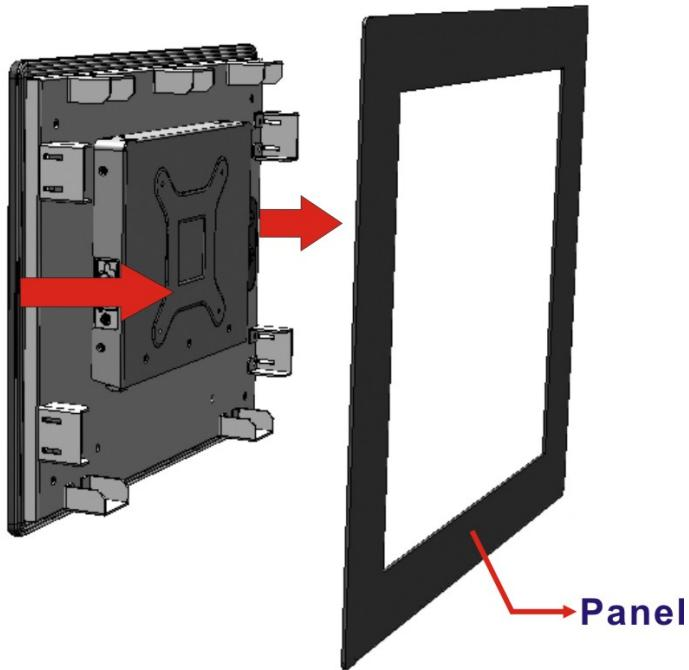

Figure 3-26: Slide into the Panel
Step 4: Slide the monitor through the hole until the aluminum frame is flush against the panel (**Figure 3-26**).